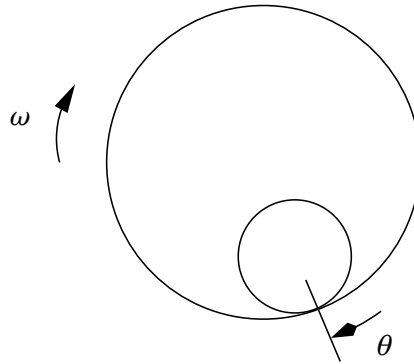

Figure 6.1 The ball in the hoop.
- 6.1** Consider the ball in the hoop in Figure 6.1. This process consists of a cylinder rotating with the angular velocity ω . Inside the cylinder, a ball is rolling. The position of the ball is given by the angle θ and the linearized dynamics can be written as $\ddot{\theta} + c\dot{\theta} + k\theta = \dot{\omega}$. Let $k = 1$ and $c = 2$.